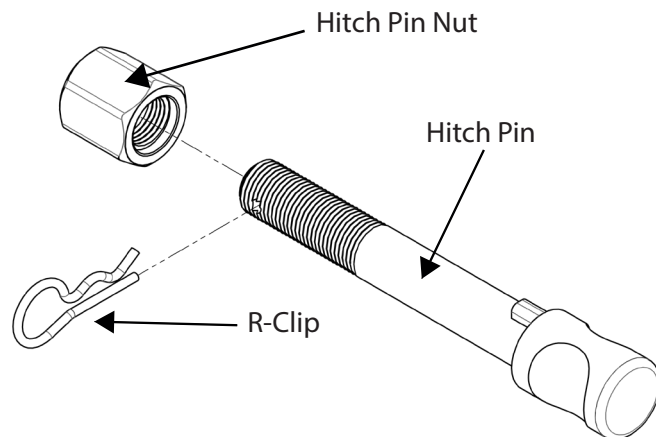

Fig 1. Silent Anti-Rattle Hitch Pin assembly
- a. Remove taillight assembly via 2 screws on both sides, refer figure 1.
**Figs 1 remove
Install HITCH PIN R CLIP through the hole on the HITCH PIN (Fig. 1).